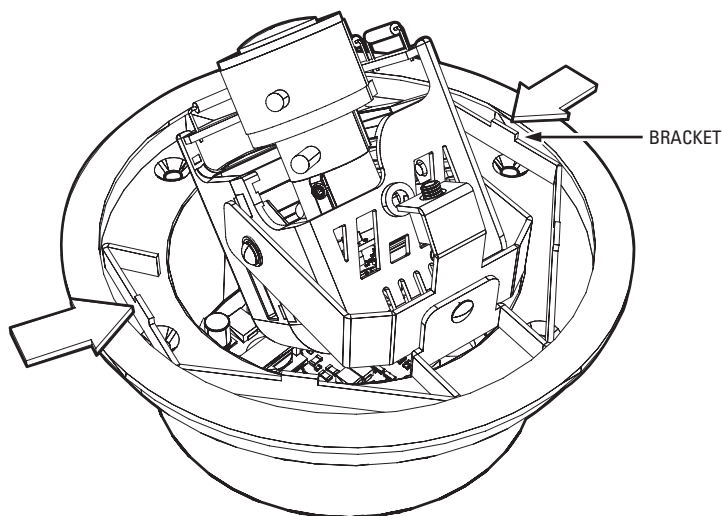

Figure 5. Camera Module Bracket
1. Gently squeeze the bracket and pull the module out of the back box (refer to Figure 5).
3. Gently squeeze the bracket, place it against the groove inside the back box, and gently release (refer to Figure 5 on page 12).